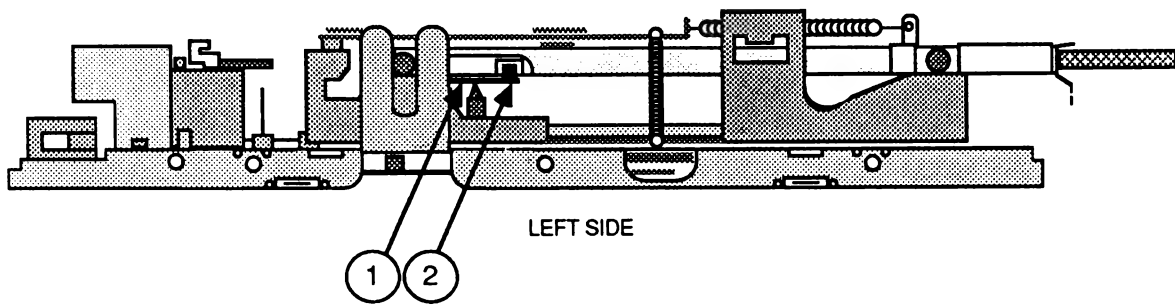

FIGURE 2
IPL.5	Service Packaging, 800K/1.4 MB Drives (Figure 2)
6. Locate the small arm with a cylindrical cog at its end. This arm is located near the left-to-right center of the drive mechanism (see Figure 2, #1). This cog will be caught in the half-moon depression of the diskette case.
7. Insert a small screwdriver at the position shown in Figure 2, #2 and **gently** move the arm away from the diskette until the diskette pops forward slightly. Remove the diskette from the disk drive.